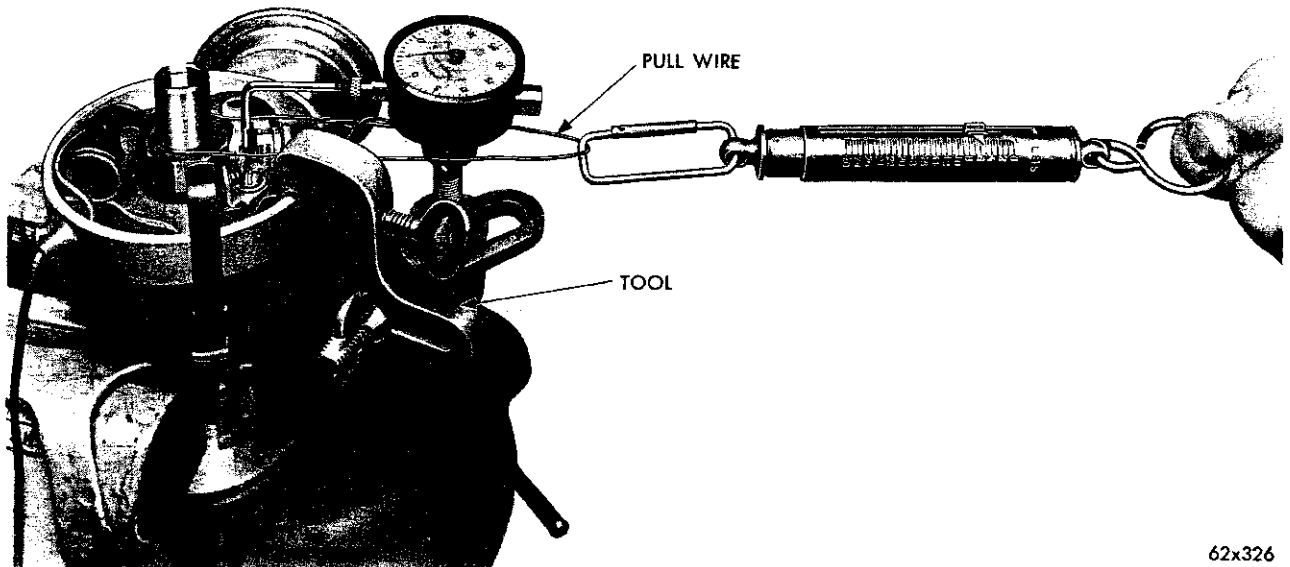

Fig. 80—Shaft and Bushing Wear Test
(1) Remove the distributor rotor.
(2) Clamp the ribbed section of the distributor housing lightly in a vise equipped with soft jaws and attach the dial indicator to the body of the distributor with the indicator plunger arm resting against the moveable breaker arm with the rubbing block of the breaker arm on the highest point of the cam lobe (Fig. 80).
(3) Place one end of a wire loop around the top of the distributor shaft. Hook a spring scale in the other end of the wire loop and pull on a line with the plunger of the indicator gauge. Be sure the wire loop on the shaft end is down on the shaft to insure a straight pull and also that the wire loop does not interfere with the indicator or holding bracket. Apply a five pound pull and read the movement of the plunger on the indicator dial. (Be sure the rubbing